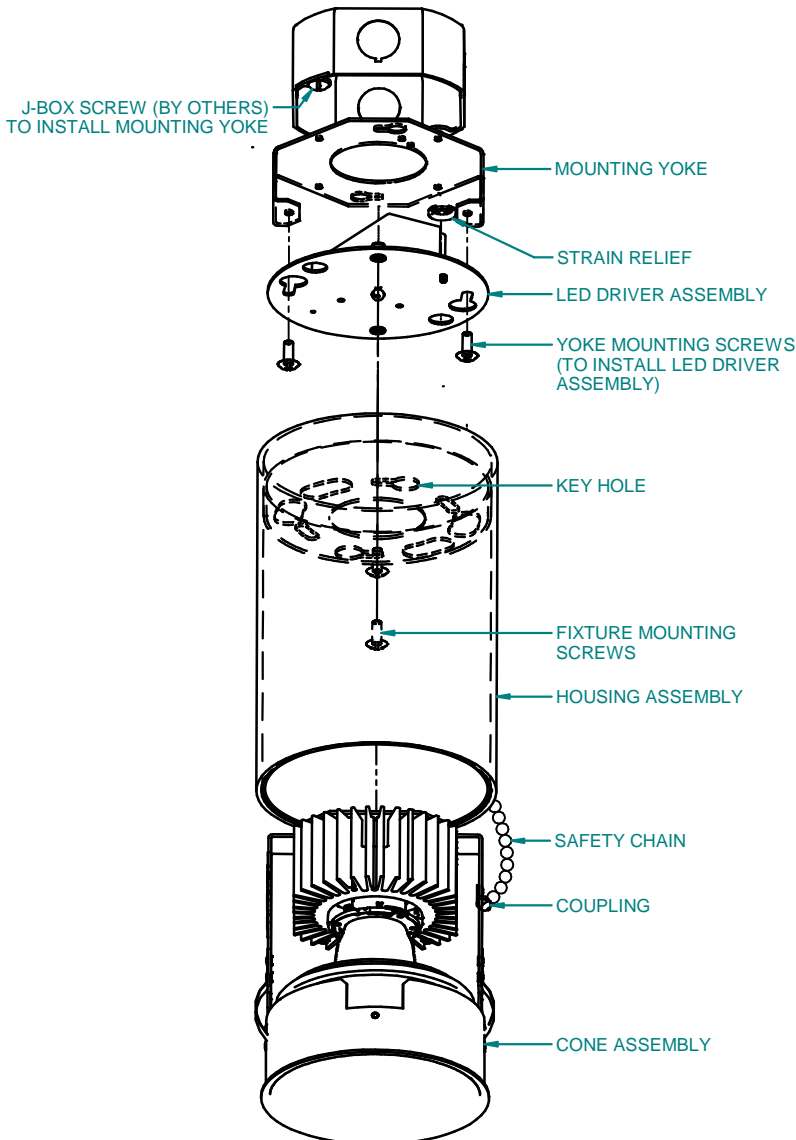

Fig. 2
1. Loosen (2) fixture mounting screws and turn housing assembly until disengaged from keyhole. Separate housing assembly from LED driver assembly. (See Fig. 2)
2. Loosen (2) yoke mounting screws turn and separate mounting yoke from LED driver assembly. (See Fig. 2)
5. Place LED driver assembly onto mounting yoke screws and tighten mounting yoke screws. (See Fig. 2)
6. Place housing assembly over fixture mounting screws and turn until seated in keyholes; tighten fixture mounting screws. (See Fig. 2)